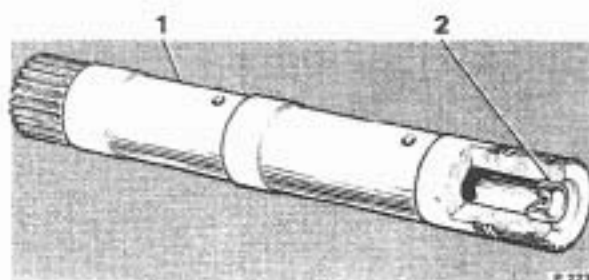

FIG. T269 MAINSHAFT AND PLUG ASSEMBLY
5. Check the orificed cup plug in the lubrication passage. Ensure that the orifice is clear (see Fig. T269).